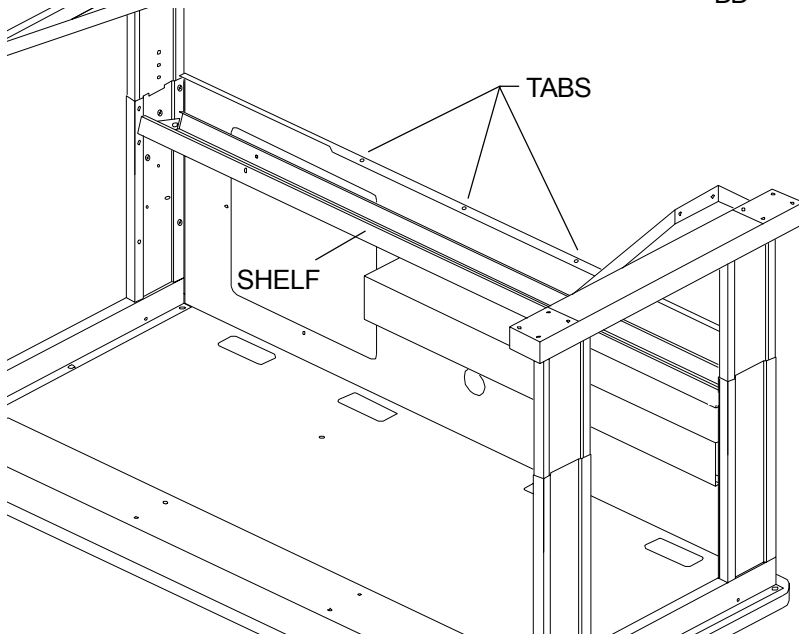

FIGURE 5
Tilt modesty panel shelf with flanges facing upward and logo facing front; hook onto tabs in modesty panel (**Figure 5**). **NOTE:** It may be necessary to open the three tabs on the modesty panel up a bit with a flat screwdriver. Attach at corners with screws (AA) as shown in **Figure 6**.